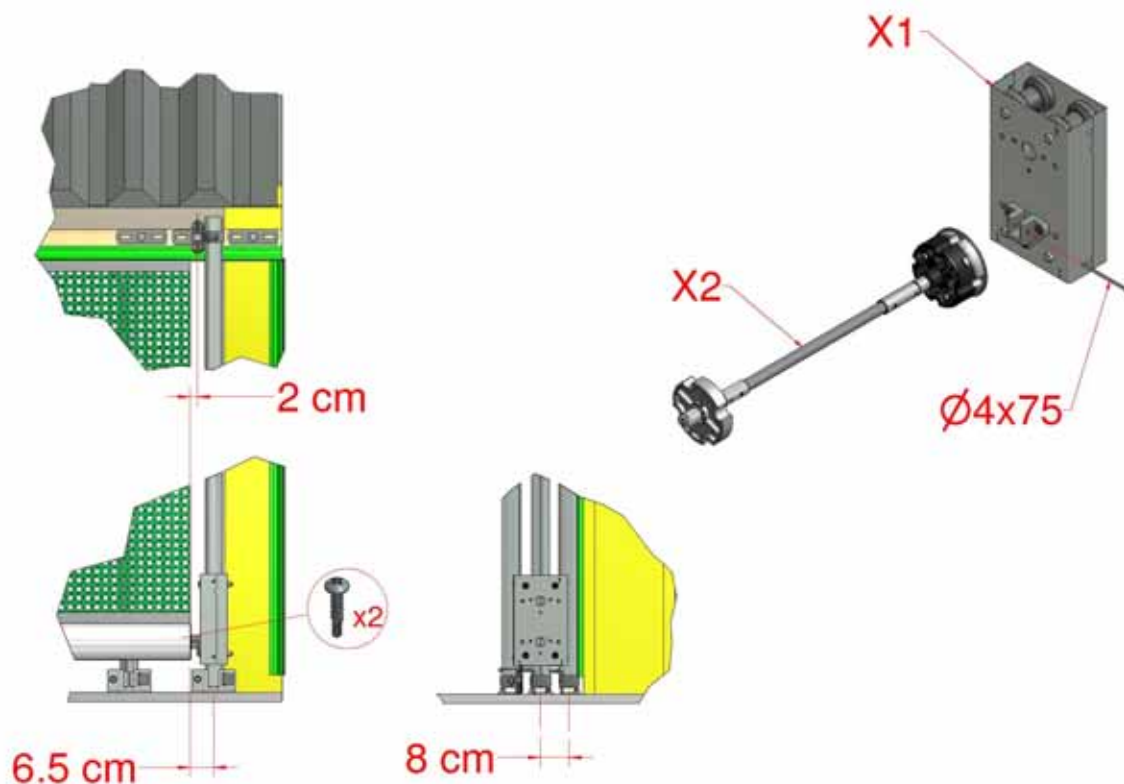

Figure 27, Free End trolley Box
- 6.1 To fit the optional free end Trolley Box fit the additional Face Bracket(s) (E1) to the Free End, see Section 2.1. The end of the Bottom Rolling Tube needs to finish 2cm from the centre of the upper Face Bracket (E1) or 6.5cm from the centre of the Torque Tube as in Figure 27.
- 6.2 For Face-Face installation pre-drill the holes into the floor for fixing so that the Torque Tube is centred 8 cm from the centre of the inner Control Tube, Figure 27. Slide the free end Shaft into the end of the Bottom Rolling Tube and secure with two M4.2x19 self drilling screws.